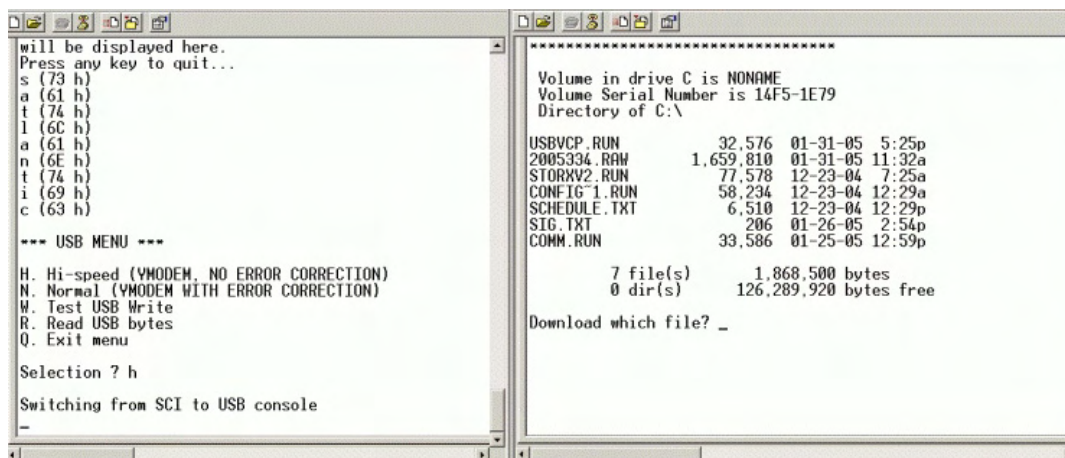

Figure 23 - USBVCP hi-speed download screens
11. To download a file using the "Hi-speed" (YMODEM with no error correction) method, type **H** at the prompt. The STOR-X will switch from its serial interface to USB mode, and do a listing of all the files in the STOR-X root directory, as shown in Figure 23.